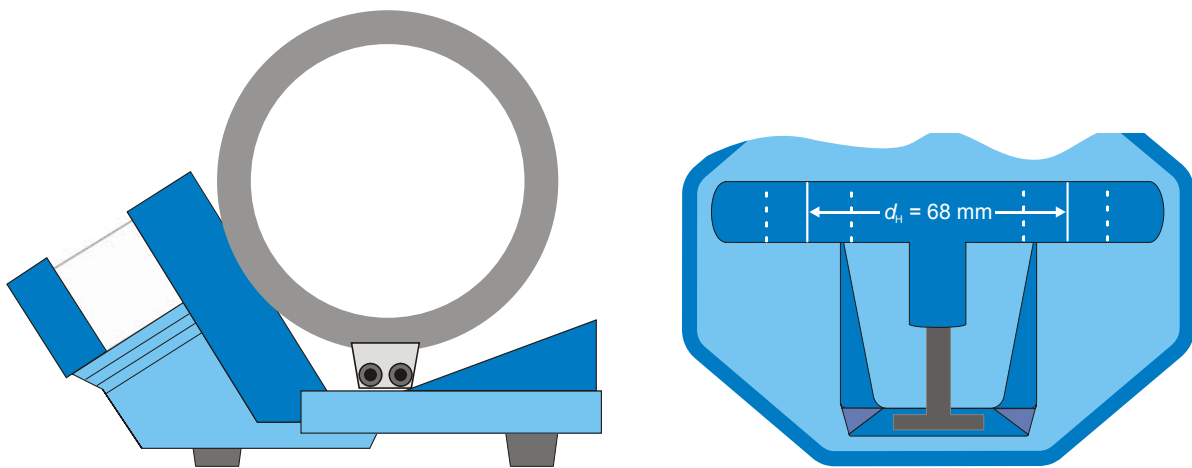

Fig. 2 Setting up the coils for a transverse field
- Insert the coils into the middle of the coil slot and push them out as far as they go. Make sure the connectors point outwards (refer to Fig. 2).